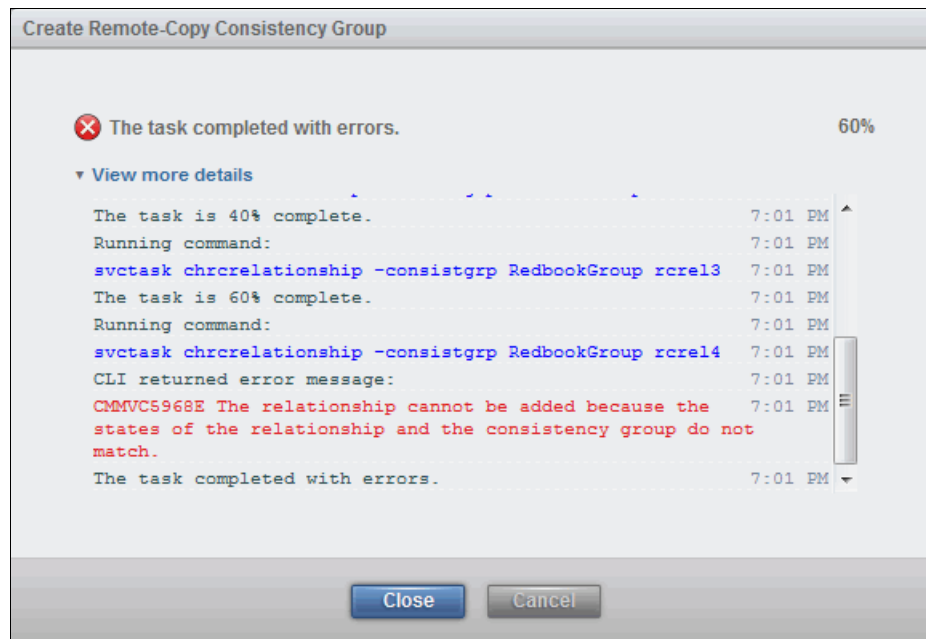

Figure 10-129 Error on creating consistency group when states do not match
13. After you select this option, click **Finish** to create the Remote Copy Consistency Group. You can encounter an error during the creation task if one of the relationships you requested to be added to the group is not in the correct state, because the group and any relationships must be in the same state to start with. This error is shown in Figure 10-129.